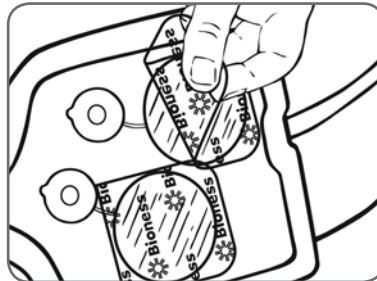

Figure 54: Removing the covers from the hydrogel electrodes.
7. Remove the covers from the hydrogel electrodes. See Figure 54.